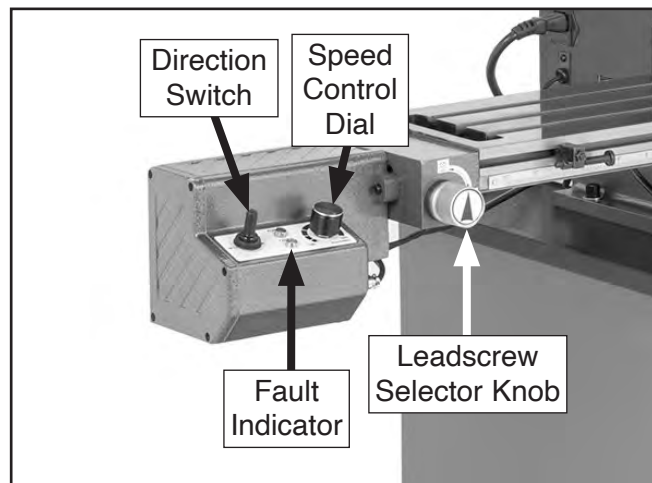

Figure 35. Power feed controls.
The power feed rate is variable from 4–14 in./min. (100–300 mm/min.). Turn the speed control dial clockwise to turn the power feed **ON** and adjust the speed (see **Figure 35**).
2. Turn power feed speed control dial (see **Figure 35**) all the way counterclockwise.
3. Move direction switch (see **Figure 35**) to neutral (middle) position.
4. Turn leadscrew selector knob (see **Figure 35**) counterclockwise to disengage power feed drive gear.
Note: If selector knob does not turn the full 90°, drive gear is not aligned with X-axis leadscrew threads. Engage and turn X-axis handwheel (see **Figure 35**) until knob can be turned fully, then disengage handwheel.
8. Turn speed control dial clockwise to turn power feed **ON** (see **Figure 35**).
11. If fault indicator (see **Figure 35**) illuminates, power feed has exceeded table travel limit or reached an obstruction. Eliminate fault condition by turning speed control dial to "0" position and moving direction switch to neutral (middle) position.